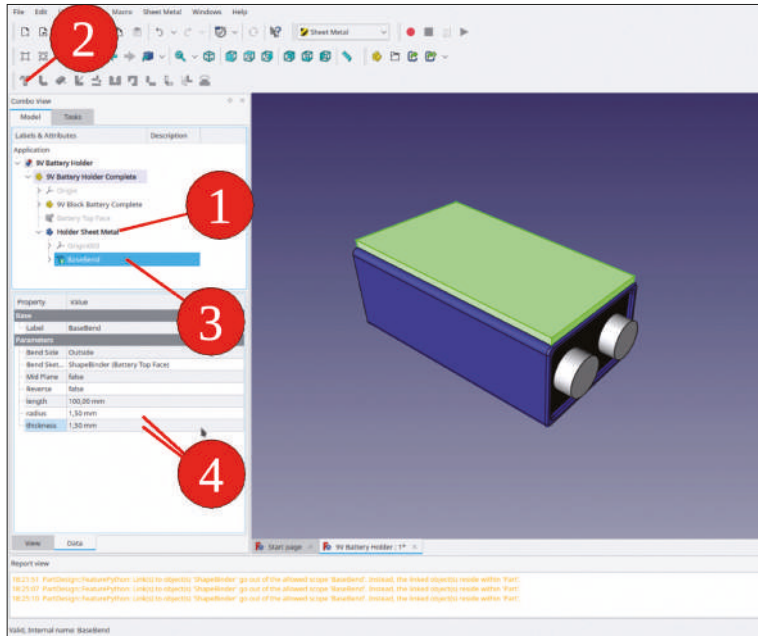

Figure 5-6
9. In the tree view, mark the shape binder 'Battery Top Face' and click the 'Make Base Wall' tool button (Figure 5-6). In the tree view, expand the body 'Holder Sheet Metal' and mark the new object 'base bend'. Insert a value of 1.5 mm into both property fields 'radius' and 'thickness' (Figure 5-6).